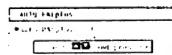

Fig. 28.
- 3 Select Auto PALplus with Δ or ∇ and press OK. The AUTO PALplus menu appears (see Fig. 28).